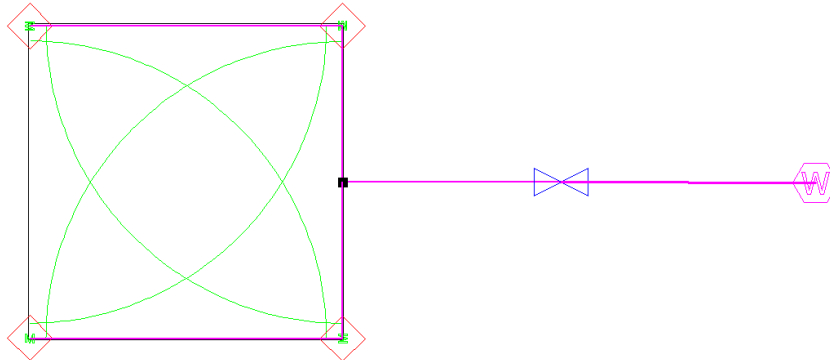

Figure 4-9
12. Select *Zone/Control Valve* and select the **1" (25mm) Electric Valve**. Place the valve on the zone pipe end. The black pipe junction should disappear. Select *Mainline/Pipe* and left-click on the valve, then left-click on the water supply. *Right-click/Restart*. See Figure 4-9.